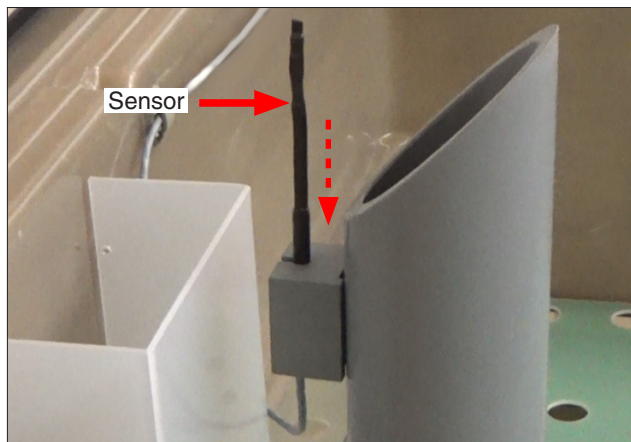

Figure 6.9e: Install the sensor as shown.
- Install the sensor in the chamber temp sensor bracket on the return tube as shown in Figure 6.9e.